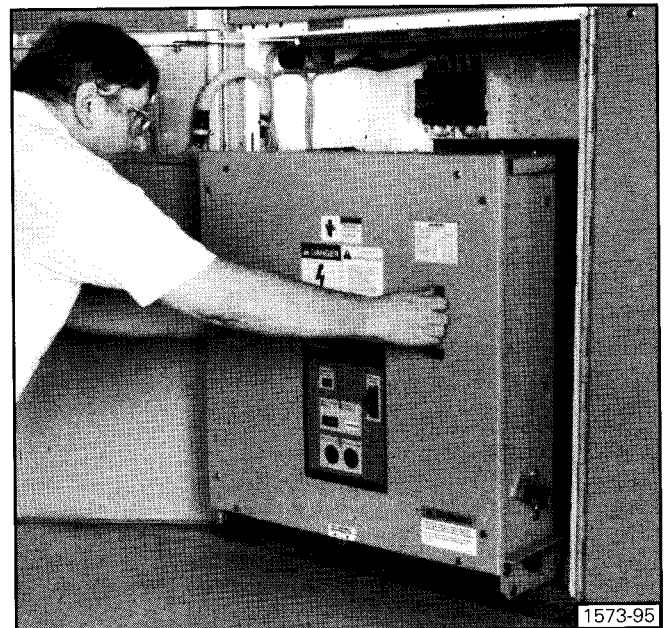

Figure 38. Removal of Circuit Breaker
4. The circuit breaker is now free to be rolled out on the floor using the handles as shown in **Figure 38**. The wheels of the circuit breaker are virtually at floor level (unless the switchgear is installed on a raised pad), and one person can easily handle the unit.